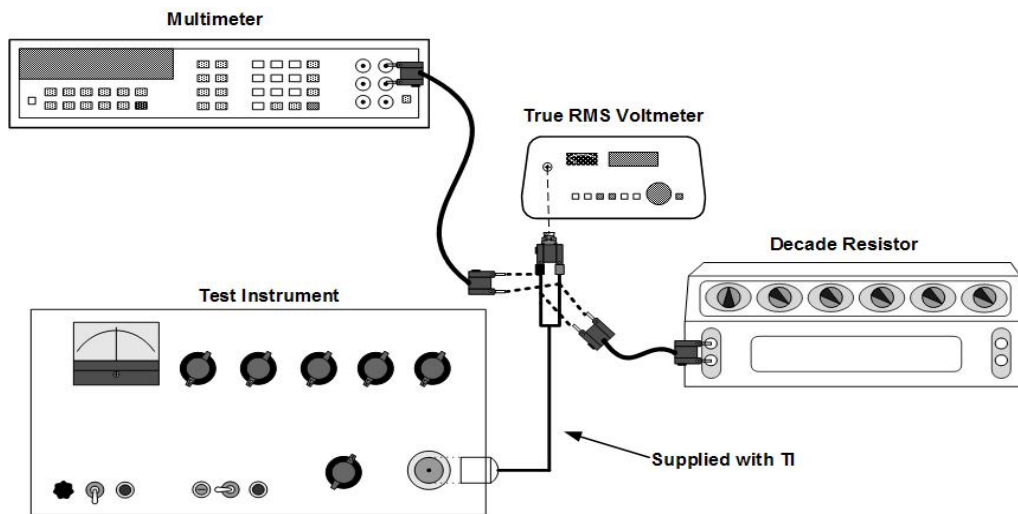

Figure 1. Regulation and ripple equipment setup.
- (1) Connect equipment as shown in figure 1.